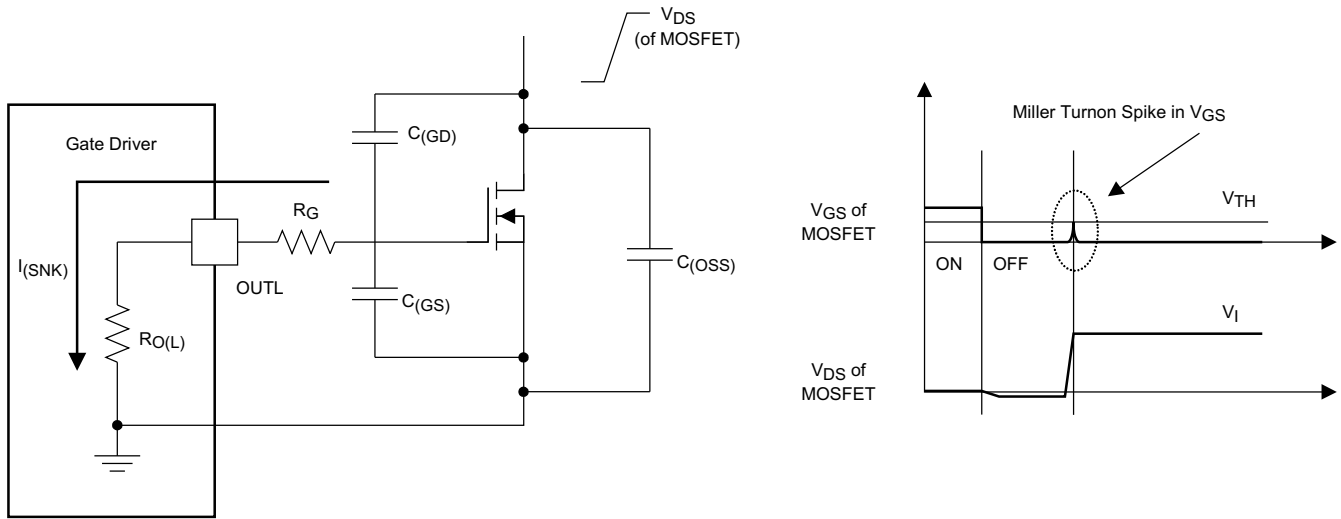

图 6-6. Very-Low Pulldown Impedance in UCC27511A, 4-A and 8-A Asymmetrical Drive (Output Stage Mitigates Miller Turnon Effect)
An example of a situation where the Miller turnon effect is a concern is synchronous rectification (SR). In an SR application, the  $dV/dt$  occurs on the MOSFET drain when the MOSFET is already held in off state by the gate driver. The current discharging the  $C_{(GD)}$  Miller capacitance during this  $dV/dt$  is shunted by the pulldown stage of the driver. If the pulldown impedance is not low enough then a voltage spike can result in the  $V_{GS}$  of the MOSFET, which can result in spurious turnon. This phenomenon is shown in 图 6-6. The UCC27511A device offers a best-in-class, 0.375- $\Omega$  (typ) pulldown impedance boosting immunity against Miller turnon.